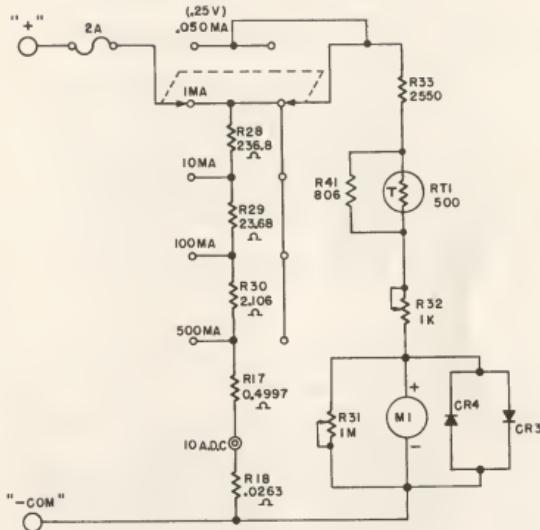

FIGURE 5. DC CURRENT CIRCUIT
**DC CURRENT METER:** An Ayrton type shunt network is used in the DC current meter as illustrated in figure 5. This type of shunt allows current to be reduced for measurement while maintaining a constant damping resistance across the microammeter. The metering portion of this circuit is adjusted to 250 millivolts at 50 microamps and is used for the 0.25 volt DC and 0.050 milliampere range. Current applied to any range will divide inversely proportional to the total resistance in each branch of the parallel circuit.